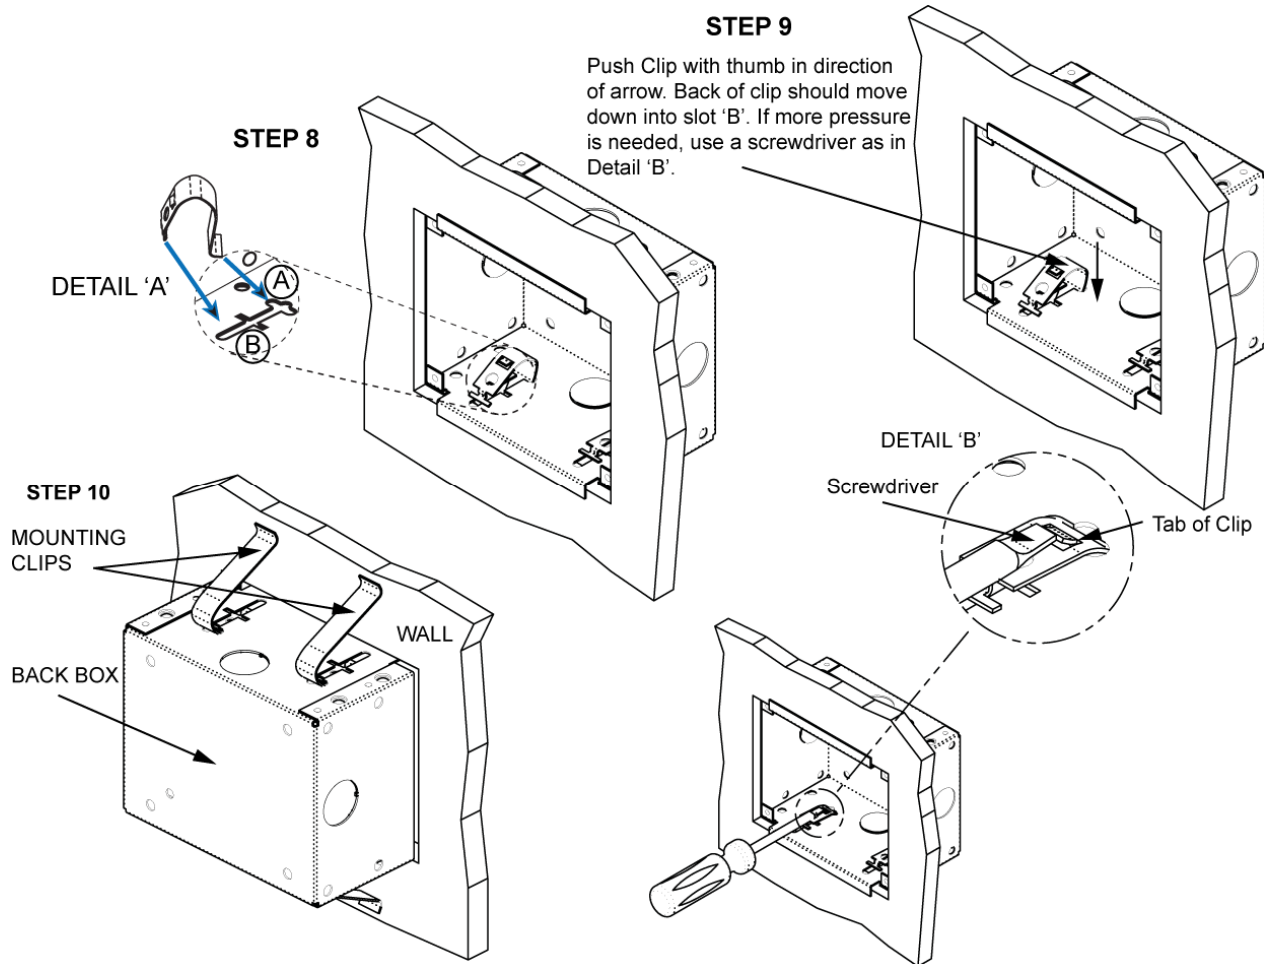

Figure 7 – Installing Back Box Mounting Clips
8. Insert each **Mounting Clip** into **Slot A** while positioning the “T” shape of the **Mounting Clip** on the *inside surface* of the **Back Box** as shown in **Detail A** of **Figure 7**.
NOTE: If more pressure is needed, use a screw driver as shown in **Detail B** of **Figure 7**.